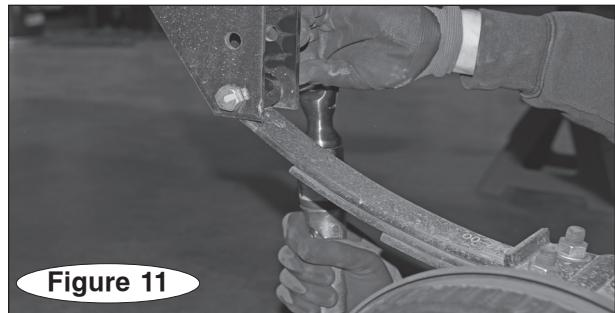

Figure 11
a. **Front axle:** Insert the eyelet end of the spring between the flanges of the spring hanger, and reinstall the bolt you removed in step 5 (Figure 11). Drive the bolt home using a hammer to fully re-engage the splines.